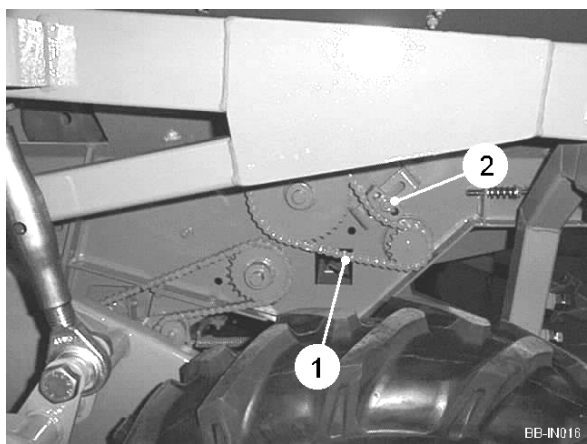

Fig 9
The feed belt drive chains (item 1, figure 9) are each fitted with a tensioner (item 2, figure 9). Adjust the chain tension to be tight enough to give positive drive without undue stretching.